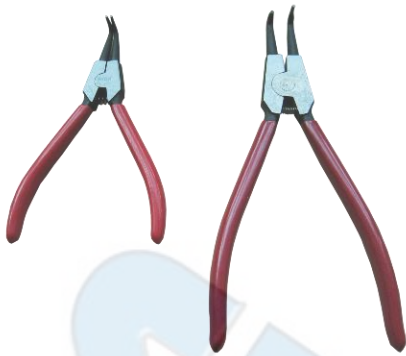

Figure 9-1
- (2) Use the tools to adjust the torsion as Figure 9-1.
| Clutch slips and tap will not turn | Tap holder clutch torsion needs to be adjusted. | Adjust tap holder torsion (see Figure 9-1 and 9-2) |